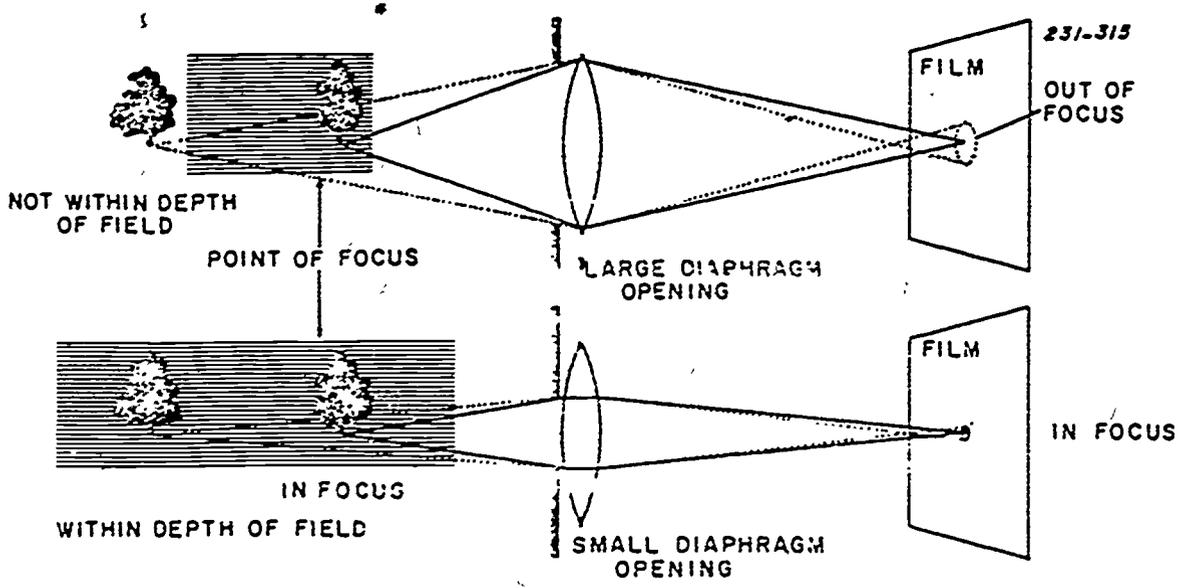

Figure 4-11. Diaphragm control of depth-of-field.
- The aperture (diaphragm). Other factors remaining constant, the smaller the f/stop setting, the greater the depth of field (see fig. 4-11). (It should be emphasized, however, that